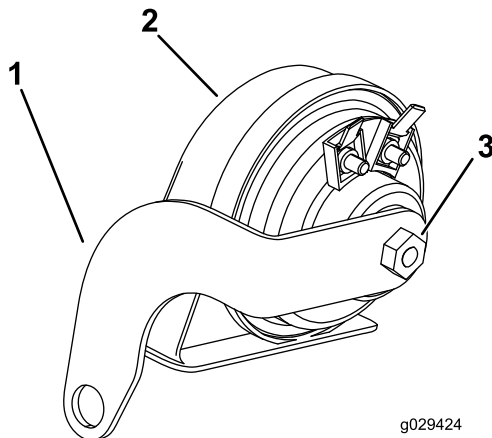

Figure 5
3. Install the horn onto the mounting bracket and torque to 7.73 to 12.8 N-m (5.7 to 9.5 ft-lb) (Figure 5).